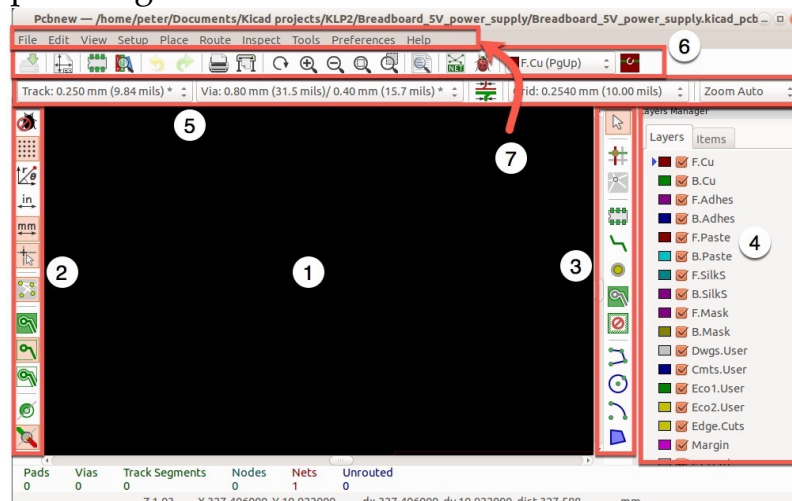

Figure 9.3: The Pcbnew main window, with its toolbars annotated.
Pcbnew will start, and you will see the main window. It should look like the example in Figure 9.3.
Compared to Eeschema, Pcbnew may seem more complex and even intimidating, but rest assured, it isn't. In this part of the book, I will help you to learn only the most important functionalities so that you can start designing your PCB very quickly. Just like we did in the Eeschema segment, we'll start with the basics of the layout sheet (item 1 in Figure 9.3), then learn about the mouse and hotkeys controls, and then the toolbars and menu bars (the rest of the items in Figure 9.3).
You can see the standard Pcbnew window in Figure 9.3. Following is a quick summary of the purpose of each bar. We'll look at some more details at later parts of this book.
The left toolbar, marked '2' in Figure 9.3, contains functionality for controlling the visual representation of the various elements of the PCB, as well as of the user interface. For example, you can turn on or off the display of rats nest lines. These lines show incomplete connections between pads. You can also show or hide the part of the right toolbar that allows you to switch to particular layers.
The right toolbar, marked '3' in Figure 9.3, contains the mains functions needed for editing the contents of the sheet. This is where you will find buttons for adding a new footprint, new tracks, and vias, text or graphics on your sheet.
Next to the right toolbar is the Layers manager, marked '4' in Figure 9.3. You can hide it by clicking on the Layers button in the left toolbar if you are working on a small monitor and you want to maximize the available space in
At the top of the Pcbnew window are three groups of functions. Two toolbars, and the drop-down menus. Marked as '5' in Figure 9.3 is the Sizes toolbar. It allows you to select sizes for the tracks, vias and the sheet grid.
On top of it is the main functions toolbar, marked as '6' in Figure 9.3. This is where you will find functions for saving your work to a file, printing your layout on paper, exporting it for manufacturing, performing the design rules check (an equivalent of the Electrical Rules Check in Eeschema), and importing the Neltlist file that you created in Eeschema.